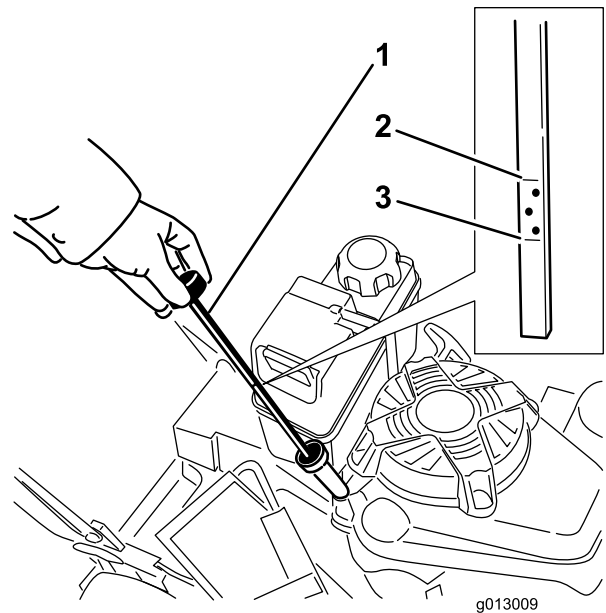

Figure 11
Before each use, ensure that the oil level is between the Add and Full marks on the dipstick (Figure 11).
2. Clean around the dipstick (Figure 11).
6. Read the oil level on the dipstick (Figure 11).